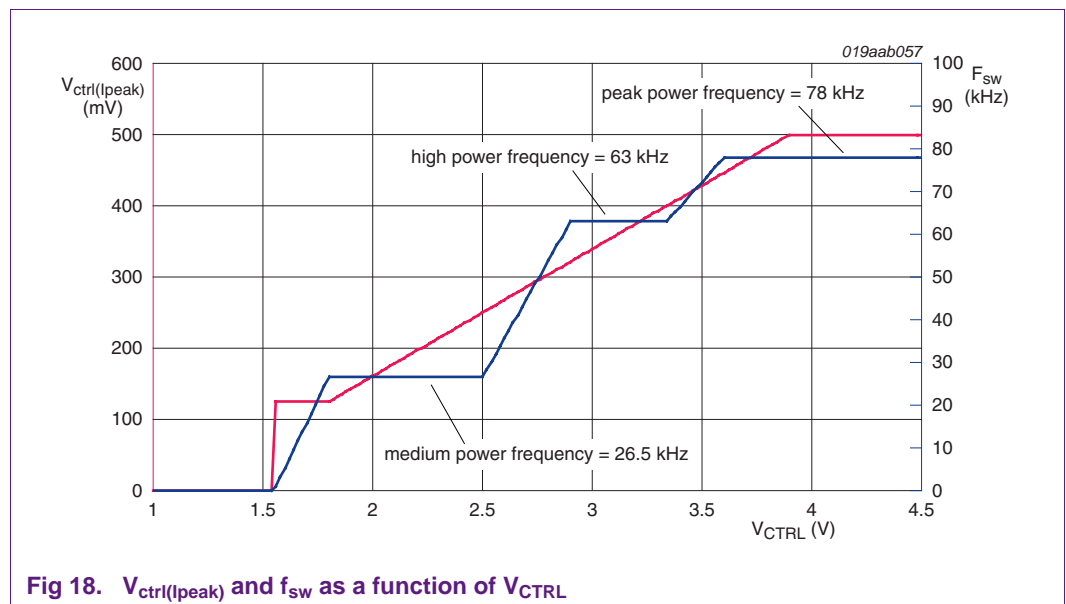

Fig 18. V_{ctrl(lpeak)} and f_{sw} as a function of V_{CTRL}
- f_{sw} is the switching frequency, in this case 63 kHz (the "high power" area of the frequency curve, see Figure 18)
- f_{sw} is the switching frequency, in this case 78 kHz (the "peak power" area of the frequency curve, see Figure 18)
The CTRL pin controls the amount of output power, this is done by changing both the peak current and the switching frequency, see Figure 18.
See Figure 18.
Frequency reduction at low power — To ensure efficient operation at low output power, the peak current cannot be reduced below 25 % of its maximum value. Instead, to reduce the output power, the switching frequency is reduced. See Figure 18.